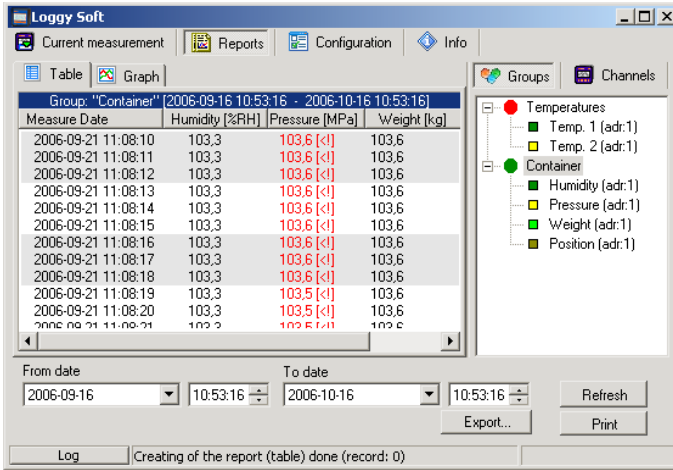

Fig. 3.3. **Reports** - menu
The **Table** tab (Fig. 3.3) is used for printing information concerning recorded measurements (e.g. temperature, humidity) in the form of a table for one of the groups or a particular measurement channel selected by the user (for more information on groups see 3.3.2 section, at page 101). This tab also enables the export of data to text format files. The exported file is formatted in a way allowing the transfer of data to a calculation sheet.
- click appropriate tab **Groups** or **Channels** (Fig. 3.3),